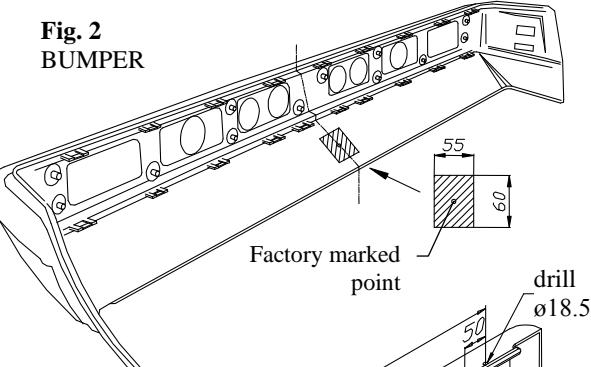

Fig. 2
5. In the bumper cut out fragment 55x60mm (see fig. 2), for better orientation cut on internal side. Central part of cutting element will be factory marked point in the axis of the bumper.